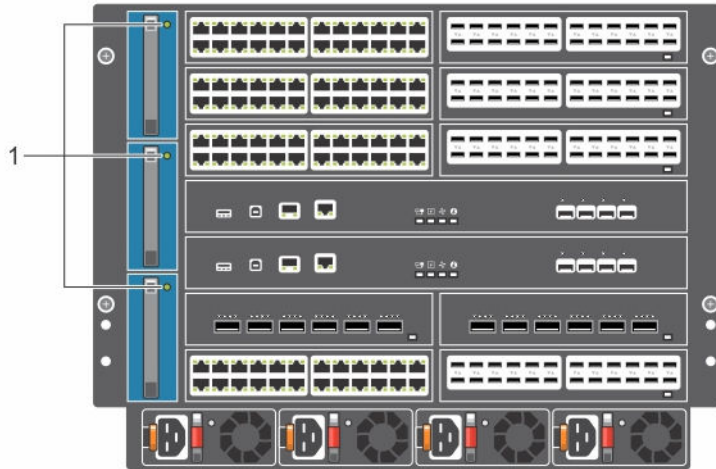

Figure 31. Fan Module LED
- If the fan module LED remains unlit (see Figure 31), remove and replace the fan module.